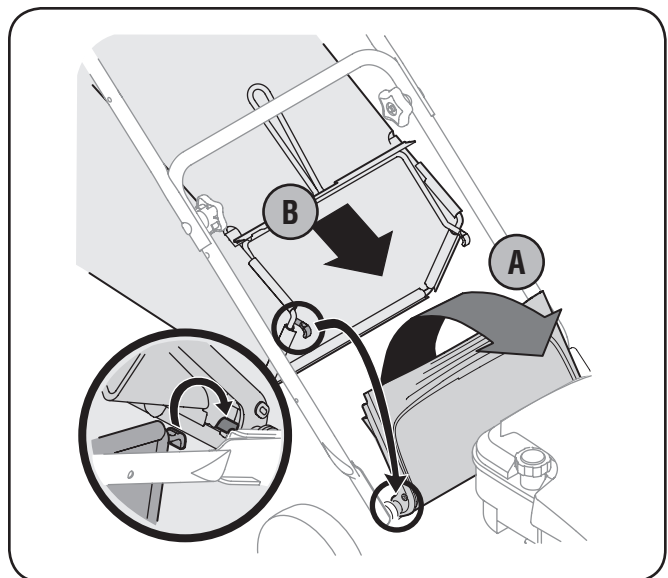

Figure 3-5
- a. Lift rear discharge door. See Fig. 3-5.